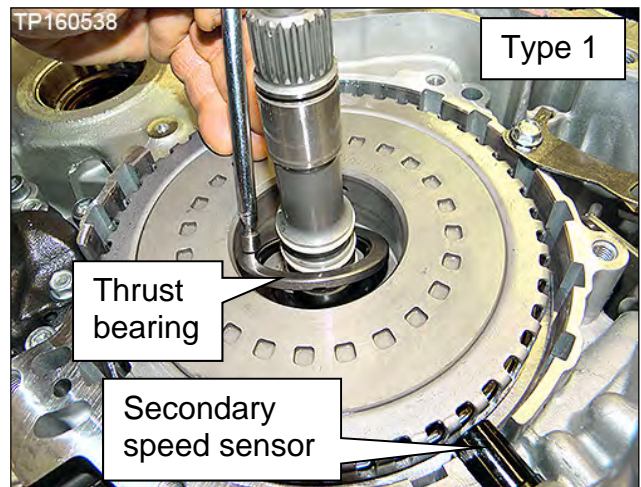

Figure 52
29. For **Type 1** remove the thrust bearing from the clutch assembly (Figure 52) and then proceed to step 31.
31. Wipe any metallic debris off of the face of the secondary speed sensor (Figure 52).